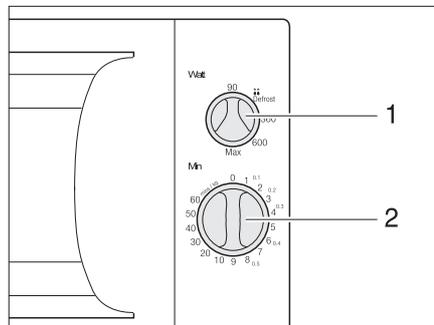

Fig. 141 Operating control for the microwave oven
- Select the output on the control knob (Fig. 141,1).
- Select the cooking time with the control knob (Fig. 141,2). Cooking begins.